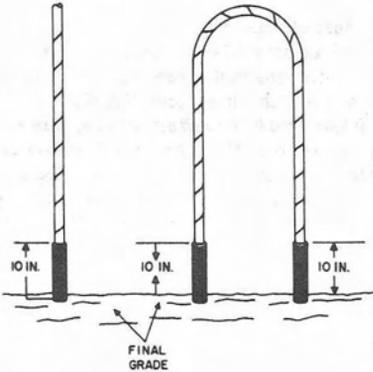

Fig. 16—Cable Sheath Removed
5.02 Remove the outer polyethylene jacket and metallic shield from the cable as shown in Fig. 16. *Do not remove core wrap at this time.*